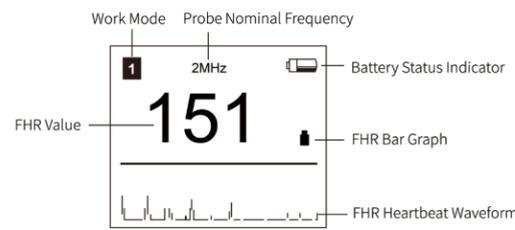

Fig.3-4 LCD display
① Power on by pressing the Power button. The LCD display is as Fig.3-4.
② Find the position of fetus: